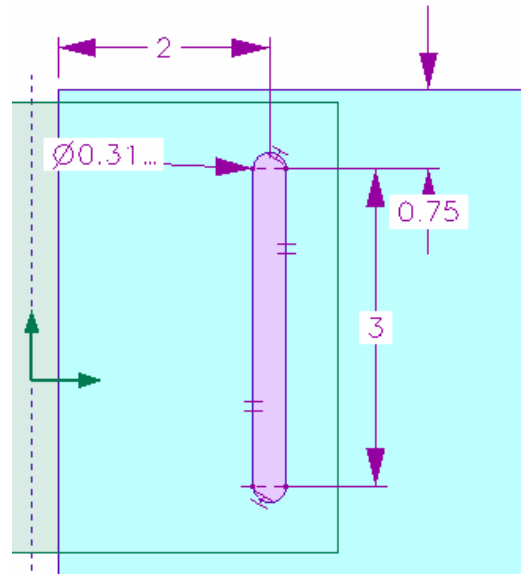

Figure 22. Layout for right slot.
43. Draw the right slot according to the dimensions given in figure 22. Draw two 5/16" holes then draw horizontal diameter lines in each hole. Connect the ends of these lines to draw the sides of the 3" slot.
44. Delete unneeded lines. The slot will fill with color when all unnecessary lines are deleted as in figure 22.